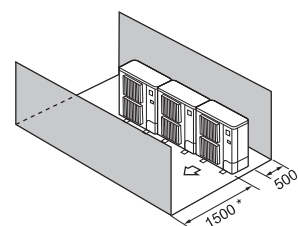

Fig. 2-16
- ④ Obstacles at front and rear only (Fig. 2-16)